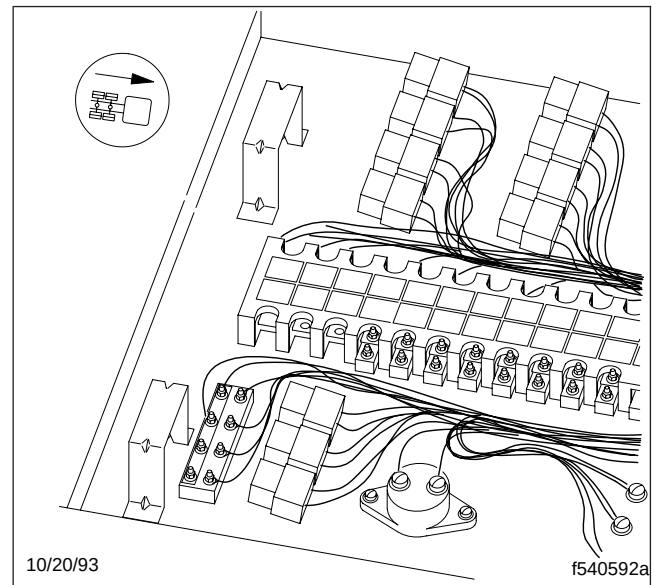
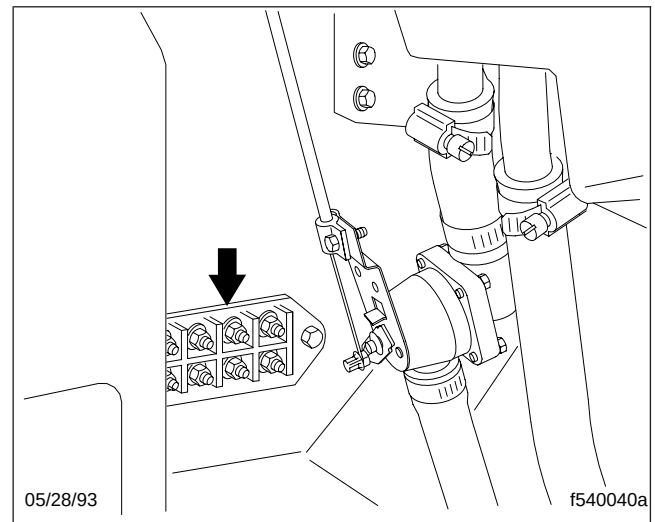

Fig. 1, FLA Electrical Mounting Plate
Fig. 2, FLA Electrical Junction Block
- For an FLA, see **Fig. 1** and **Fig. 2**.